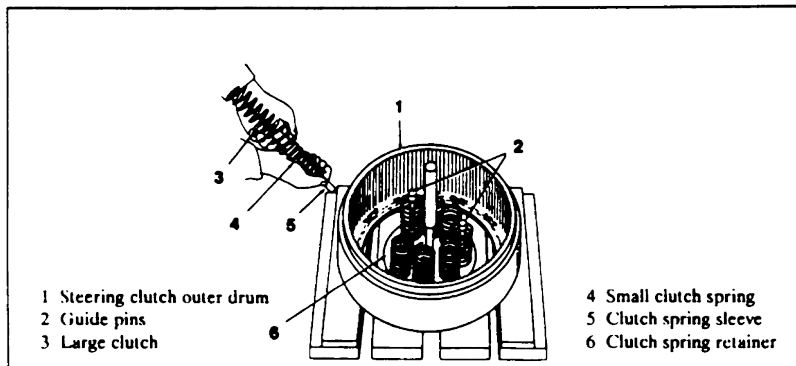

FIGURE 25. SPRINGS AND SLEEVES ASSEMBLY
Step 3. Install two 5/8-inch guide pins into the clutch spring retainer (Figure 25). Insert the bolt through the plate, placing the retainer on the plate and over the bolt. Place this assembly into the outer drum on blocks about 2 inches lower than the outer drum (Figure 25).